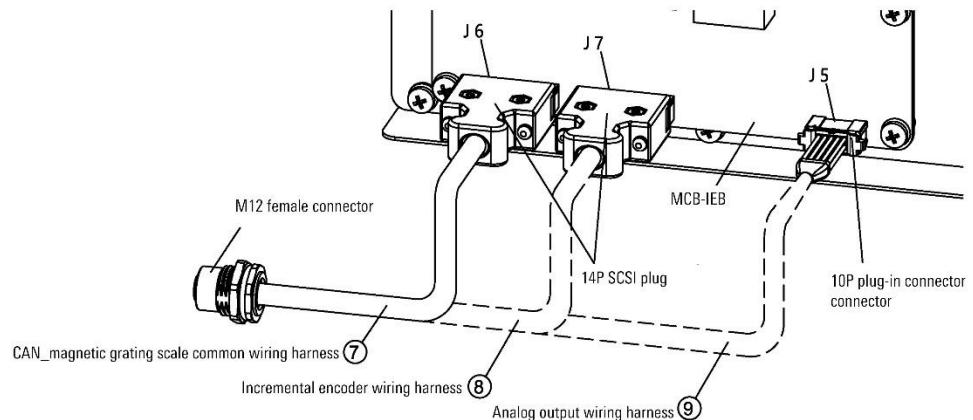

Figure 18-42 Multi-function communication module connection diagram
Step5. As shown in Figure 18-42, according to actual needs, the CAN\_magnetic grating scale common wiring harness or incremental encoder wiring harness or analog output wiring harness which is connected to the corresponding interface on MCB-IEB CAN\_magnetic grating scale common wiring harness connected to J6 interface, incremental encoder wiring harness connected to J7 interface, analog output wiring harness to J5 interface), install the M12 female connector at the other end on the M12 connector mounting board.